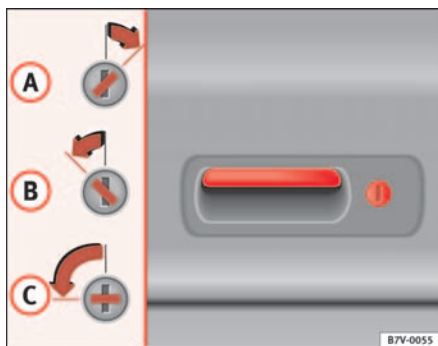

Fig. 63 Key slot positions of tailgate lock
- The doors and the tailgate will be locked by turning the vehicle key to position ⇒ fig. 63 **A**.
- A** Windows, or the sliding roof, which are still open can be closed automatically on vehicles equipped with electric windows and electric vent windows or with an electric sliding roof. To do this, the vehicle key must be kept held in position ⇒ fig. 63 **A** until all windows and the sliding roof are fully closed.